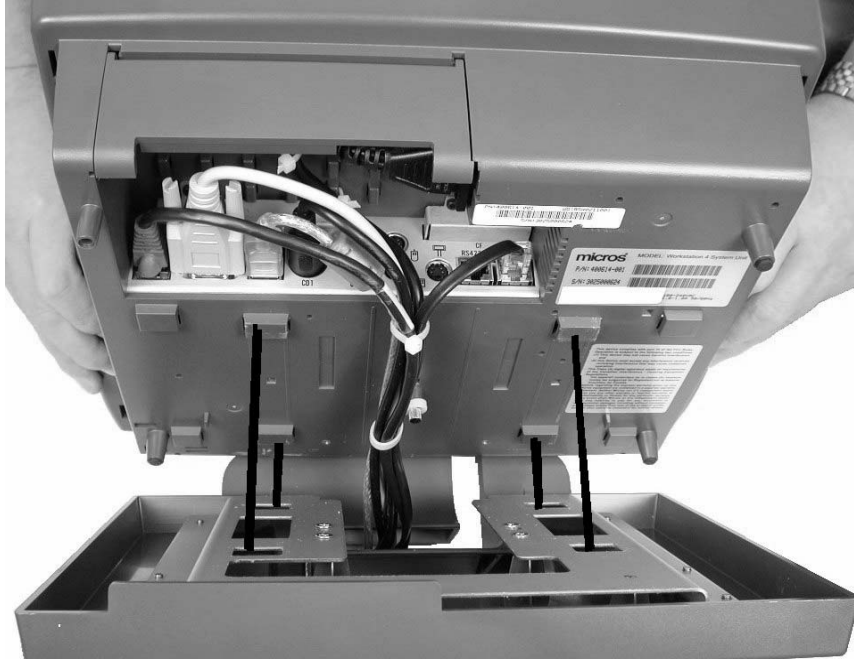

Figure 3-2: Attaching the WS4 to the Stand
3. Line the four inside plastic hooks on the workstation with the four rectangular holes on the stand and place the unit on the stand as shown in Figure 3-2. The workstation will slide down and lock into place.